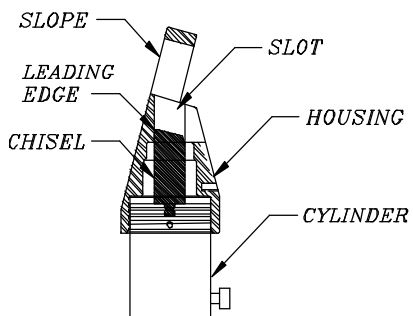

Figure 9
4. Connect the quick disconnect (10) to a hydraulic pump using a 10,000 psi hydraulic hose. Refer to Power Requirements on page 3 for appropriate hose and pump.
6. Place the housing (1) on the hydraulic cylinder (9). The chisel (4) will project into housing. Make sure that the longest edge of the chisel is on the same side as the slope of the housing (1). *See figure 9.*
7. Completely thread the housing onto the cylinder while the chisel is extended. Back off the housing one full turn. Lock in place by inserting the set screw (2) on the side of the housing and tightening with the Allen Wrench (3).